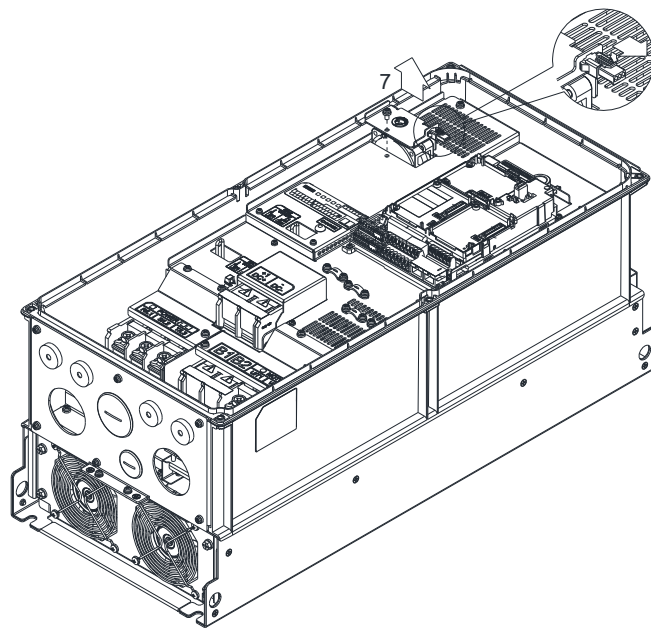

Figure 3
3. Loosen the screw 7 then remove the fan kit. (Refer to Figure 3)